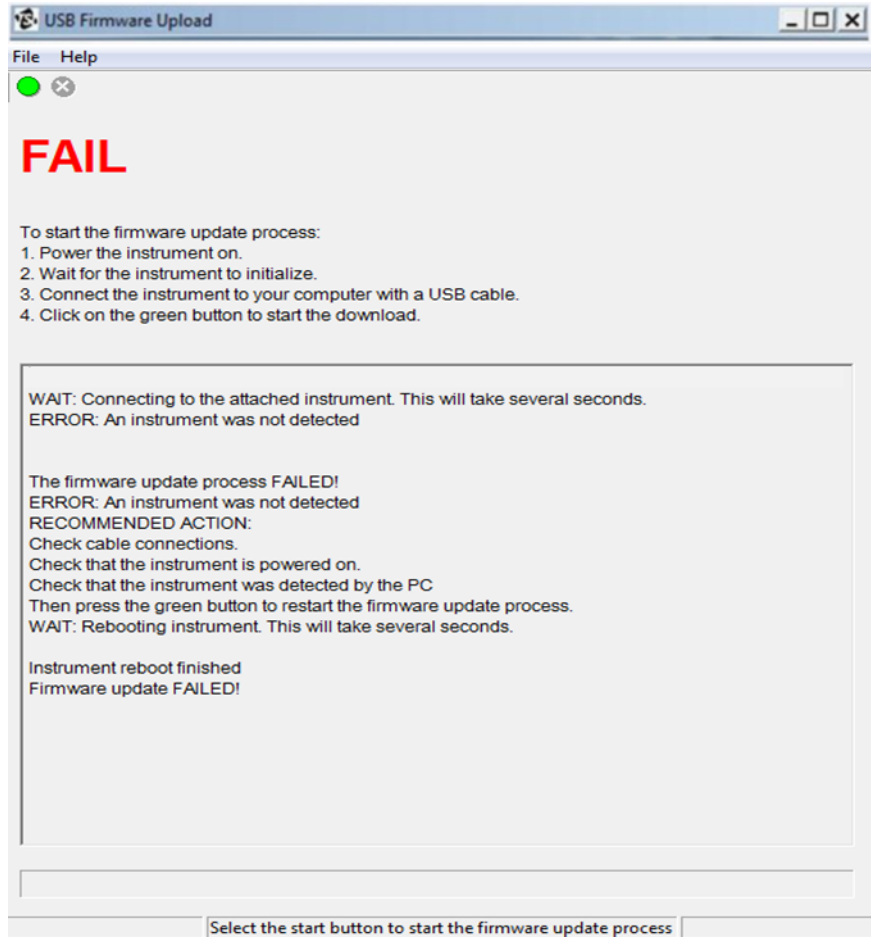

Figure 10
In the event that the instrument is not attached or not powered, the following error will be shown in the status box of the application (Figure 10):
5. If the Firmware Update application is displaying an error message similar to Figure 10, restart the Firmware Update process by clicking the green **START**  button.